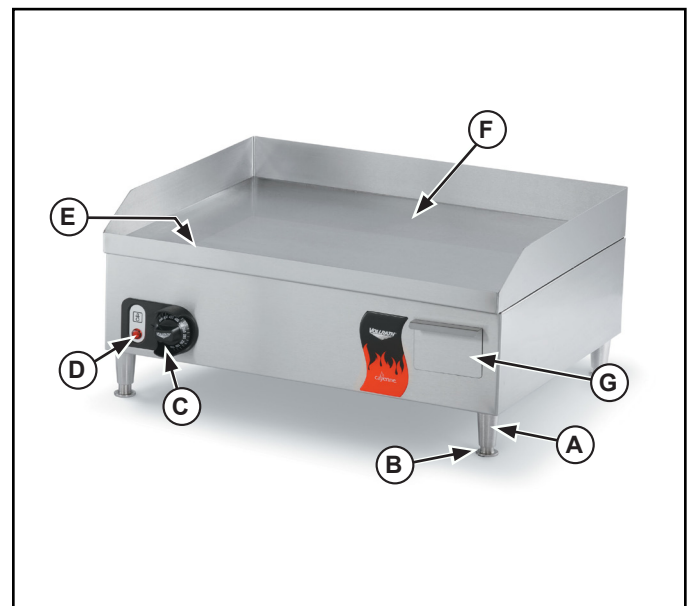

Figure 1. Features and Controls.
5. Install the four (4) legs and feet onto the unit. See Figure 1.
1. Hold the leg (A) and rotate the feet so the unit is level. See Figure 1.
5. Empty the drip tray (G) periodically to ensure it does not overflow. See Figure 1.
3. Wipe grease or oil to the drip trough (E) and into the drip tray (G). See Figure 1.
6. Empty and clean drip tray (G). Place the drip tray into the unit.
7. Apply a light coat of vegetable to prevent rust on the griddle plate (F).